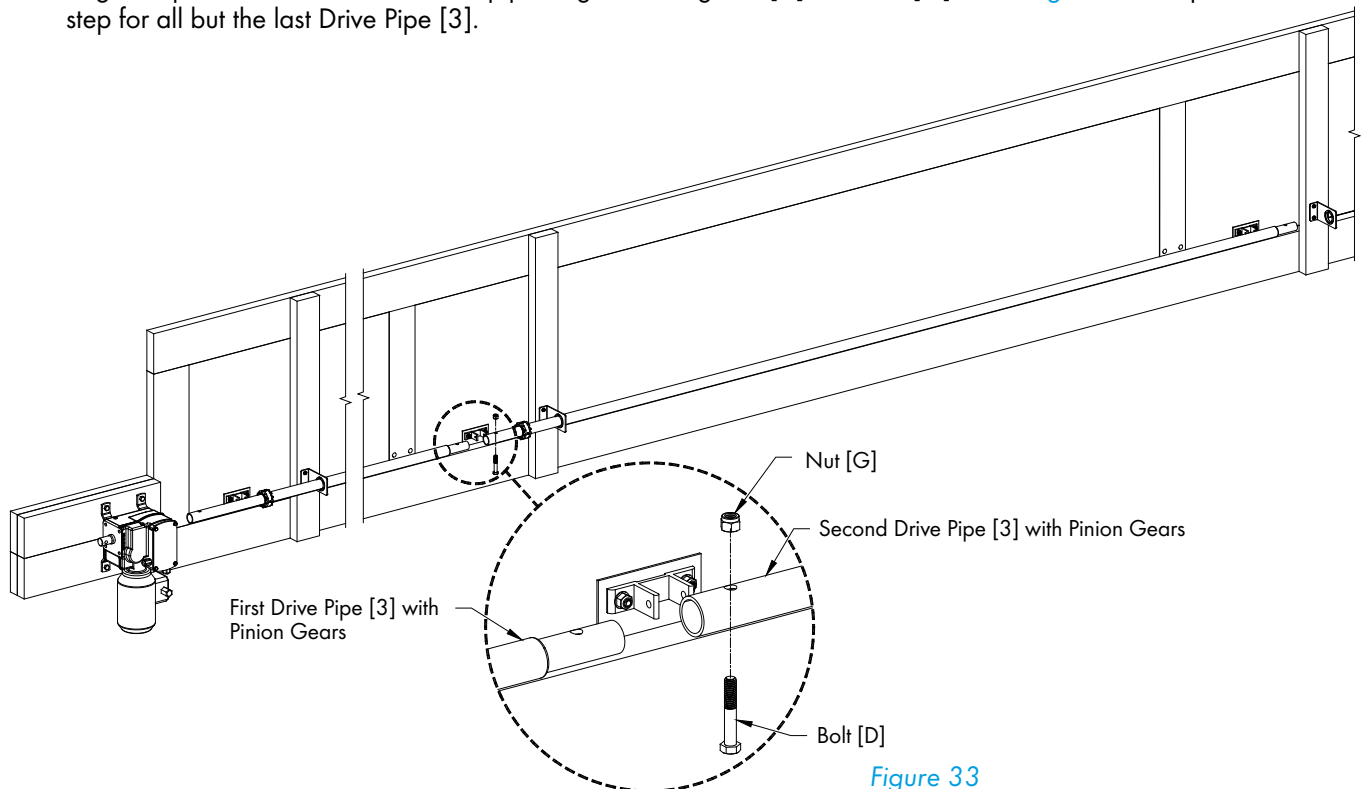

Figure 33
For next Drive Pipe [3] slide (1) Pinion Gear onto Pipe, then slide the swaged end of the Drive Pipe through the next Bronze Bushing in Guide Plate [13]. Then slide the opposite end onto the swaged end of the previous pipe. If needed slide the Pinion Gear past the joint in the pipes to align with the Pivoting Connector. Align the pre-drilled holes and secure pipes together using Bolt [D] and Nut [G]. See Figure 33. Repeat this step for all but the last Drive Pipe [3].